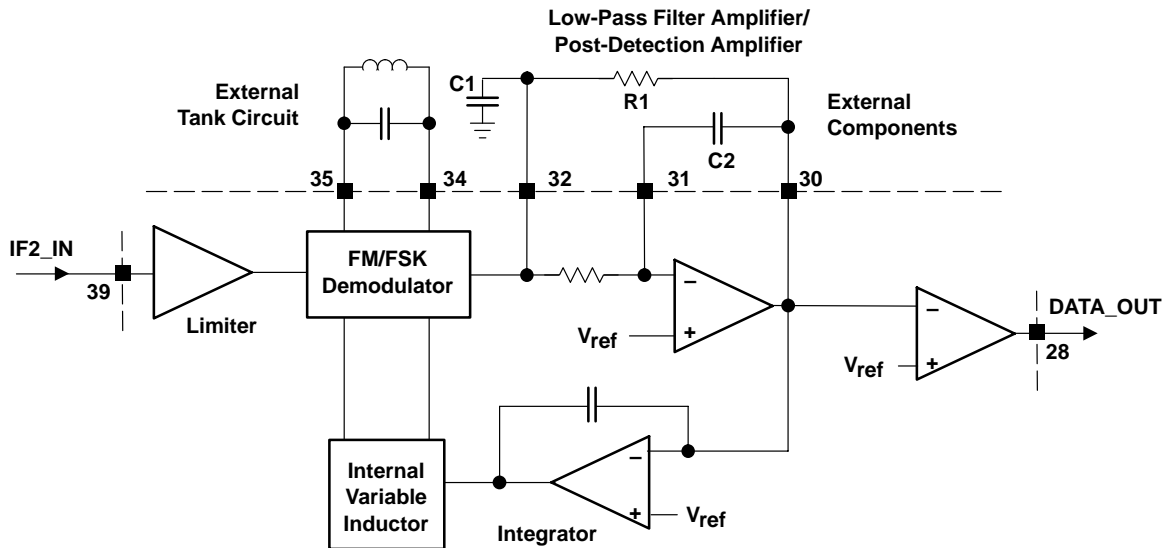

Figure 13. AFC Loop to Control the Data Slicer Decision Threshold
The demodulator is intended for analog (FM) and digital (FSK) frequency demodulation. It consists of a quadrature demodulator with an external LC tank circuit. A variable inductor, internal to the TRF5901, operates in parallel with the external tank circuit (see Figure 13), and is used to adjust the external tank circuit's resonant frequency. If the tolerances of the external demodulator tank circuit components can provide a maximum frequency error of less than 5%, then no additional adjustments are required. As long as the device is in the *learning mode*, the internal reactance automatically fine-adjusts the resonant frequency of the external LC tank circuit. Depending on the supply voltage, the tank circuit tuning range is approximately four times the discriminator 3-dB bandwidth.
The data slicer is fundamentally a comparator. The data slicer provides binary logic level signals, derived from the demodulated and low-pass filtered IF signal, that are able to drive external CMOS compatible inputs. The noninverting input is directly connected to the internal reference voltage, V_{ref} , and the inverting input is driven by the output of the low-pass filter amplifier/post-detection amplifier. The decision threshold of the data slicer is determined by the internal reference voltage, V_{ref} . The automatic frequency control (AFC) loop scheme for the TRF5901 is shown in Figure 13.